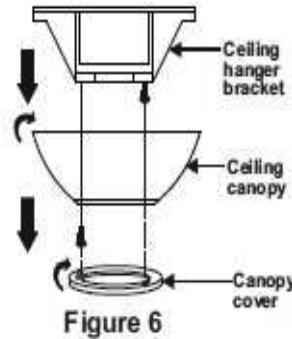

Figure 6
1. Remove the Canopy cover from the Ceiling canopy by turning the cover counter clockwise. (Fig. 6)
2. Remove the hanger bracket from the canopy by removing the 1 of 2 screws from the bottom of the hanger bracket and loosening the other one half a turn from the screw head. Next, turn the canopy counter clockwise to remove the hanger bracket from the canopy. (Fig. 6)